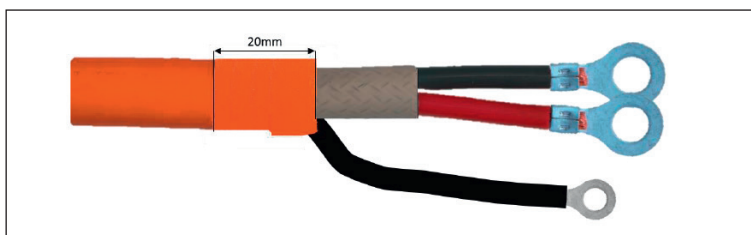

Fig. 8-35: Two-core HV power cable: apply insulating tape to the marked section
- ☞ Double-wrap the area marked in Fig. 8-35 (approx. 20 mm) on the HV conductor with insulating tape.